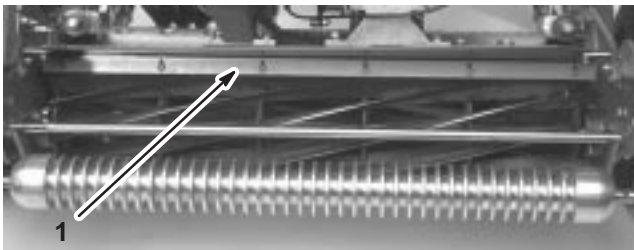

Figure 19
1. Loosen the screws securing the top bar (Fig. 19) to the cutting unit.